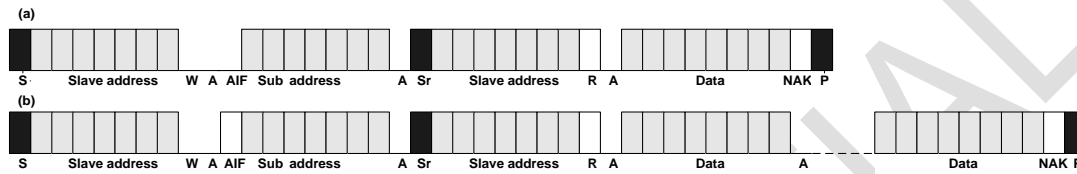
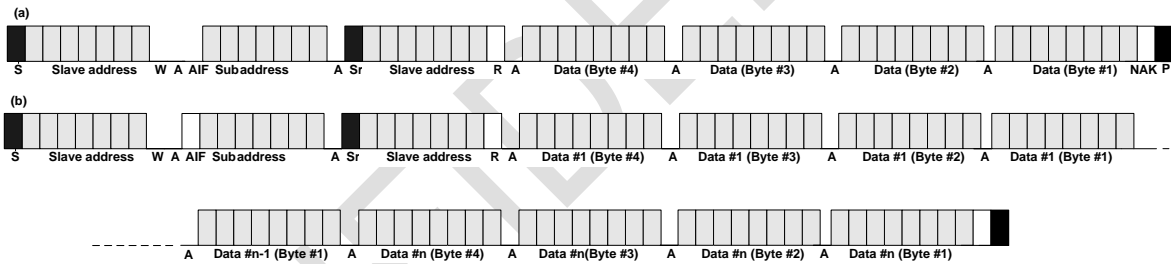

Figure 8. Single Byte Read Mode Sequence
Figure 9. Quad Byte Read Mode Sequence
Figure 8-(a) represents single byte reading operation from the NTP8849. To read data from the NTP8849, generate start condition to start transfer. After then, send “slave address” with write mode flag and send the register address(sub address). By regenerating start condition
When AIF set to high on sub address like **Figure 8-(b)**, data will be read continuously with register addresses which are increased from initial “sub address” for every byte. To continue reading operation in this case, the master must generate ACK signal on every 9th slot to confirm that master received 1 byte successfully. Otherwise, reading operation will be terminated. To end address auto incrementing reading operation, generate NAK on 9th slot and generate stop condition.
**Figure 9** represents quad byte reading operation. The difference between quad byte reading operation and single byte reading operation is only the size of receiving data. So, after sending “Sub address”, 4 sequential bytes must be received from the MSB to the LSB sequence.
The type presented on **Figure 9-(b)** is quad byte read operation under address auto increment mode, AIF function. Please compare the data receive size between **Figure 8** and **Figure 9**.